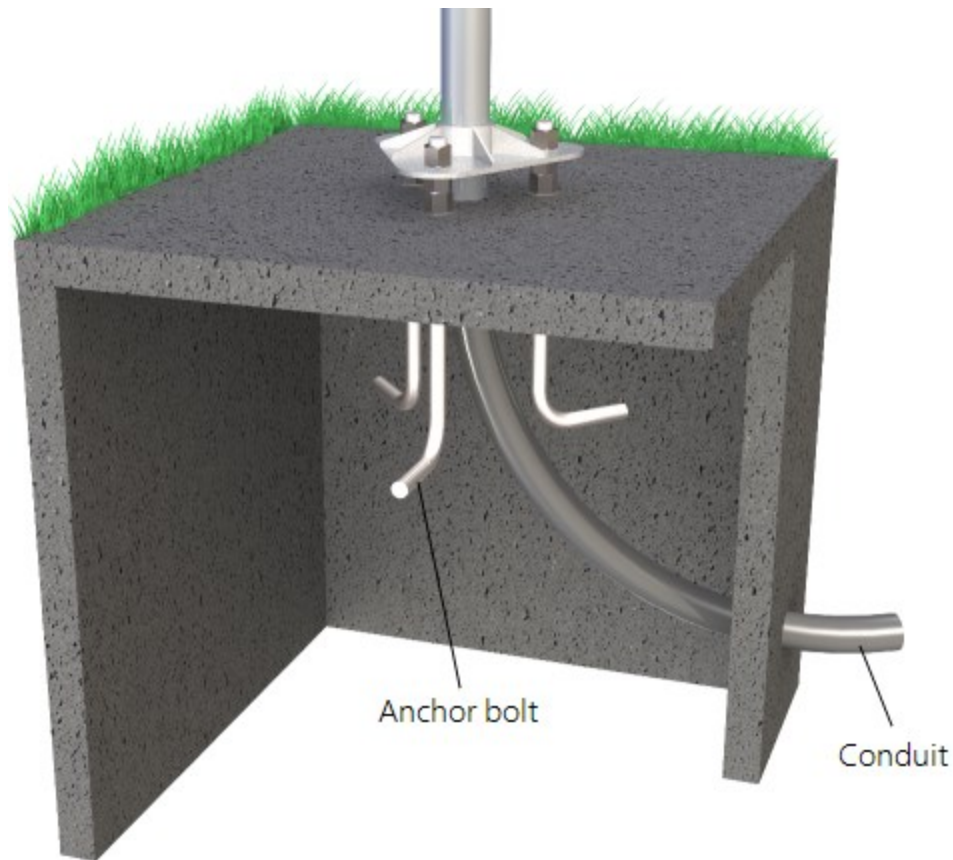

FIGURE 6-2. Cut-away view shows anchor bolt and conduit placement in cement pad
11. Put 2-by-4 spacers between the template and the top of the form. The bottom of the bolt threads should be about 1 cm (0.5 in) above the concrete (FIGURE 6-2 (p. 14)). The template must be level in two dimensions.